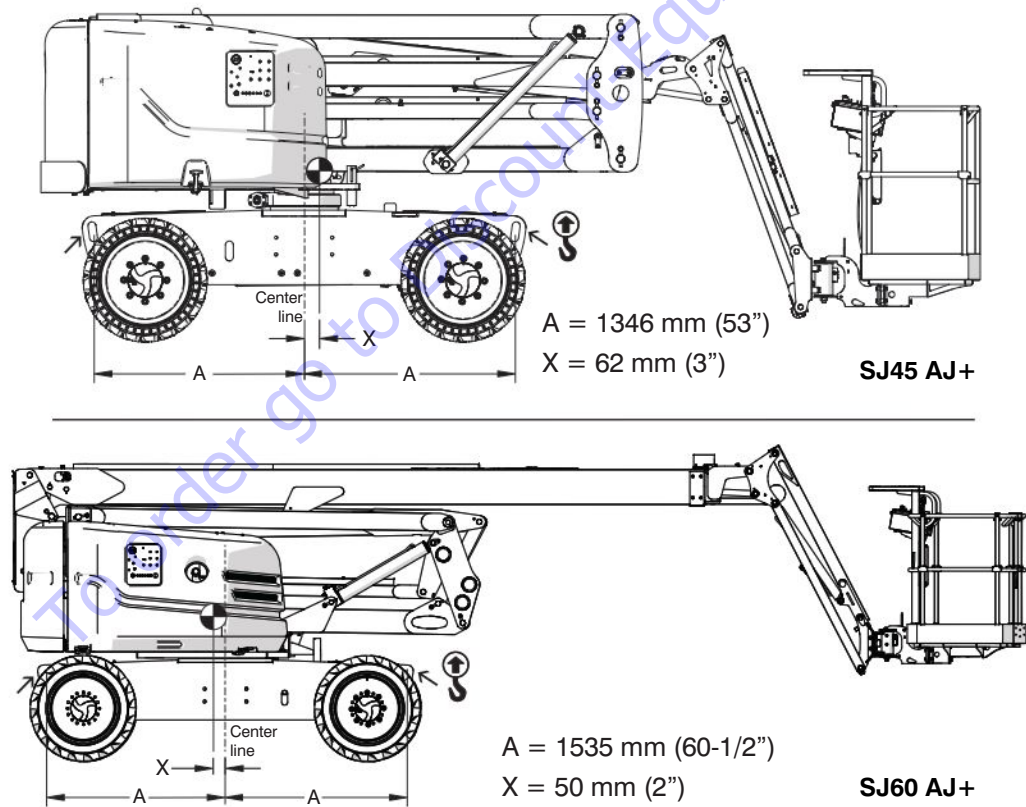

Figure 08 Lift points and center of gravity
1. Put the MEWP in the position shown in *Figure 08*.
4. Attach the rigging to all four lift points as shown in *Figure 08*.
5. Adjust the rigging to make sure the MEWP stays level when you hoist it. Refer to *Figure 08* for the center of gravity location.